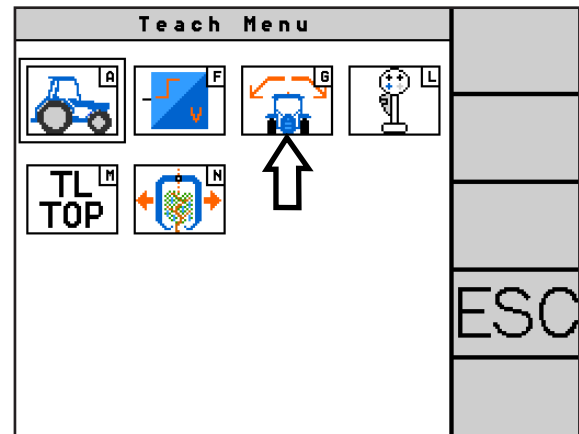

Fig. 60: Accessing the terrain sensor teaching
Call up “Teach terrain sensor” (G) in the teach menu (see Fig. 60).